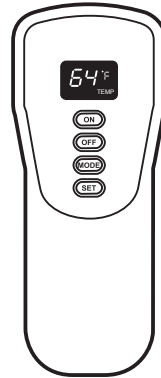

Figure 20 - Remote Control
1. Place the slide switch on the receiver in the remote position (see Figure 20).
The factory setting for temperature is °F. To change this setting to °C, press the ON key and the OFF key on the remote control at the same time (see Figure 20, page 20). This will change from °F to °C. Follow this same procedure to change from °C back to °F.